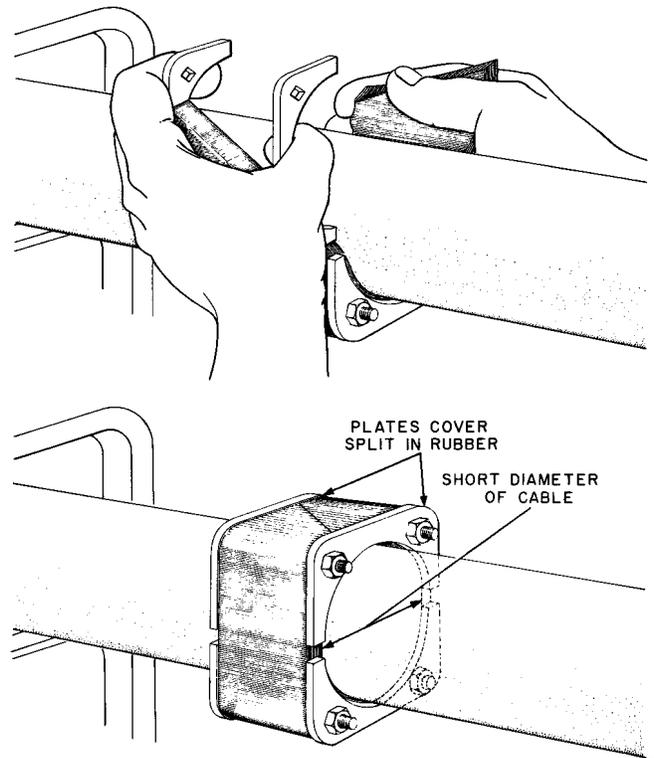

Fig. 4—Placing Split Rubber Conduit Plug on Cable
5.03 To place a square split plug on a cable, remove one of the bolts holding the plates covering the split in the rubber. To place the round split plugs shown in Fig. 3A and B, two bolts must be removed to uncover the split in the rubber. Swing these plates on the remaining bolt to uncover the split in the rubber. Spread the rubber as illustrated in Fig. 4 and slip the plug over the cable with the nuts facing outward.